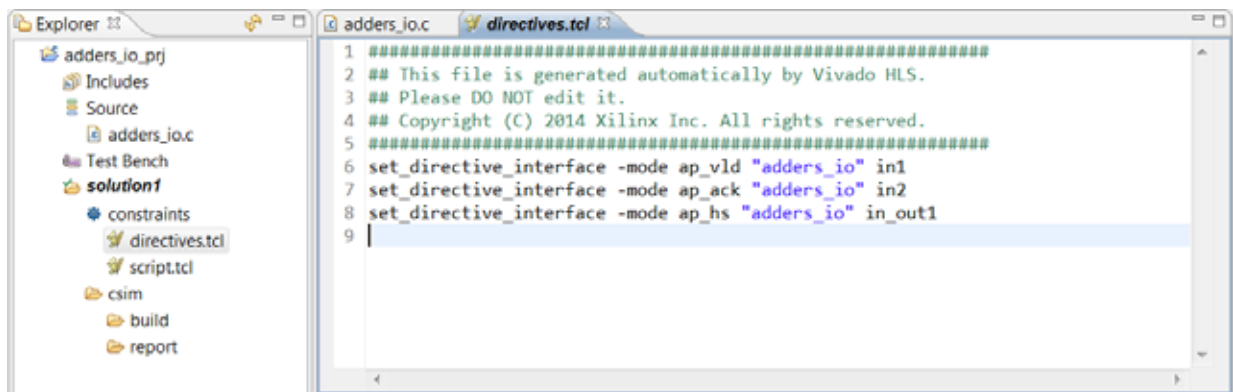

Figure 4-14: Directives for Lab 2
7. In the Explorer pane, expand the Constraints folder and double-click the `directives.tcl` file to open it, as shown in Figure 4-14.